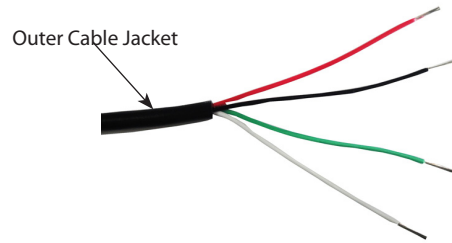

Figure 8: Outer Cable Jacket
- Strip the outer cable jacket to a length of two to three inches (see Figure 8).